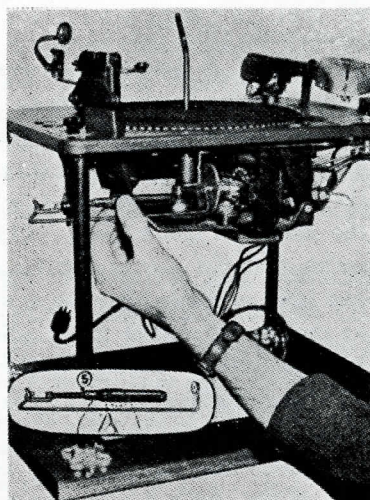

FIG. 10
1. Place the brass collar of the special end thrust spring adapter, Philco Part No. 56-6202, over the small cone in the center of the drive disc. (See Fig. 10.)
2. Hook the Philco 8-ounce scale onto the adapter as shown in figure 10.